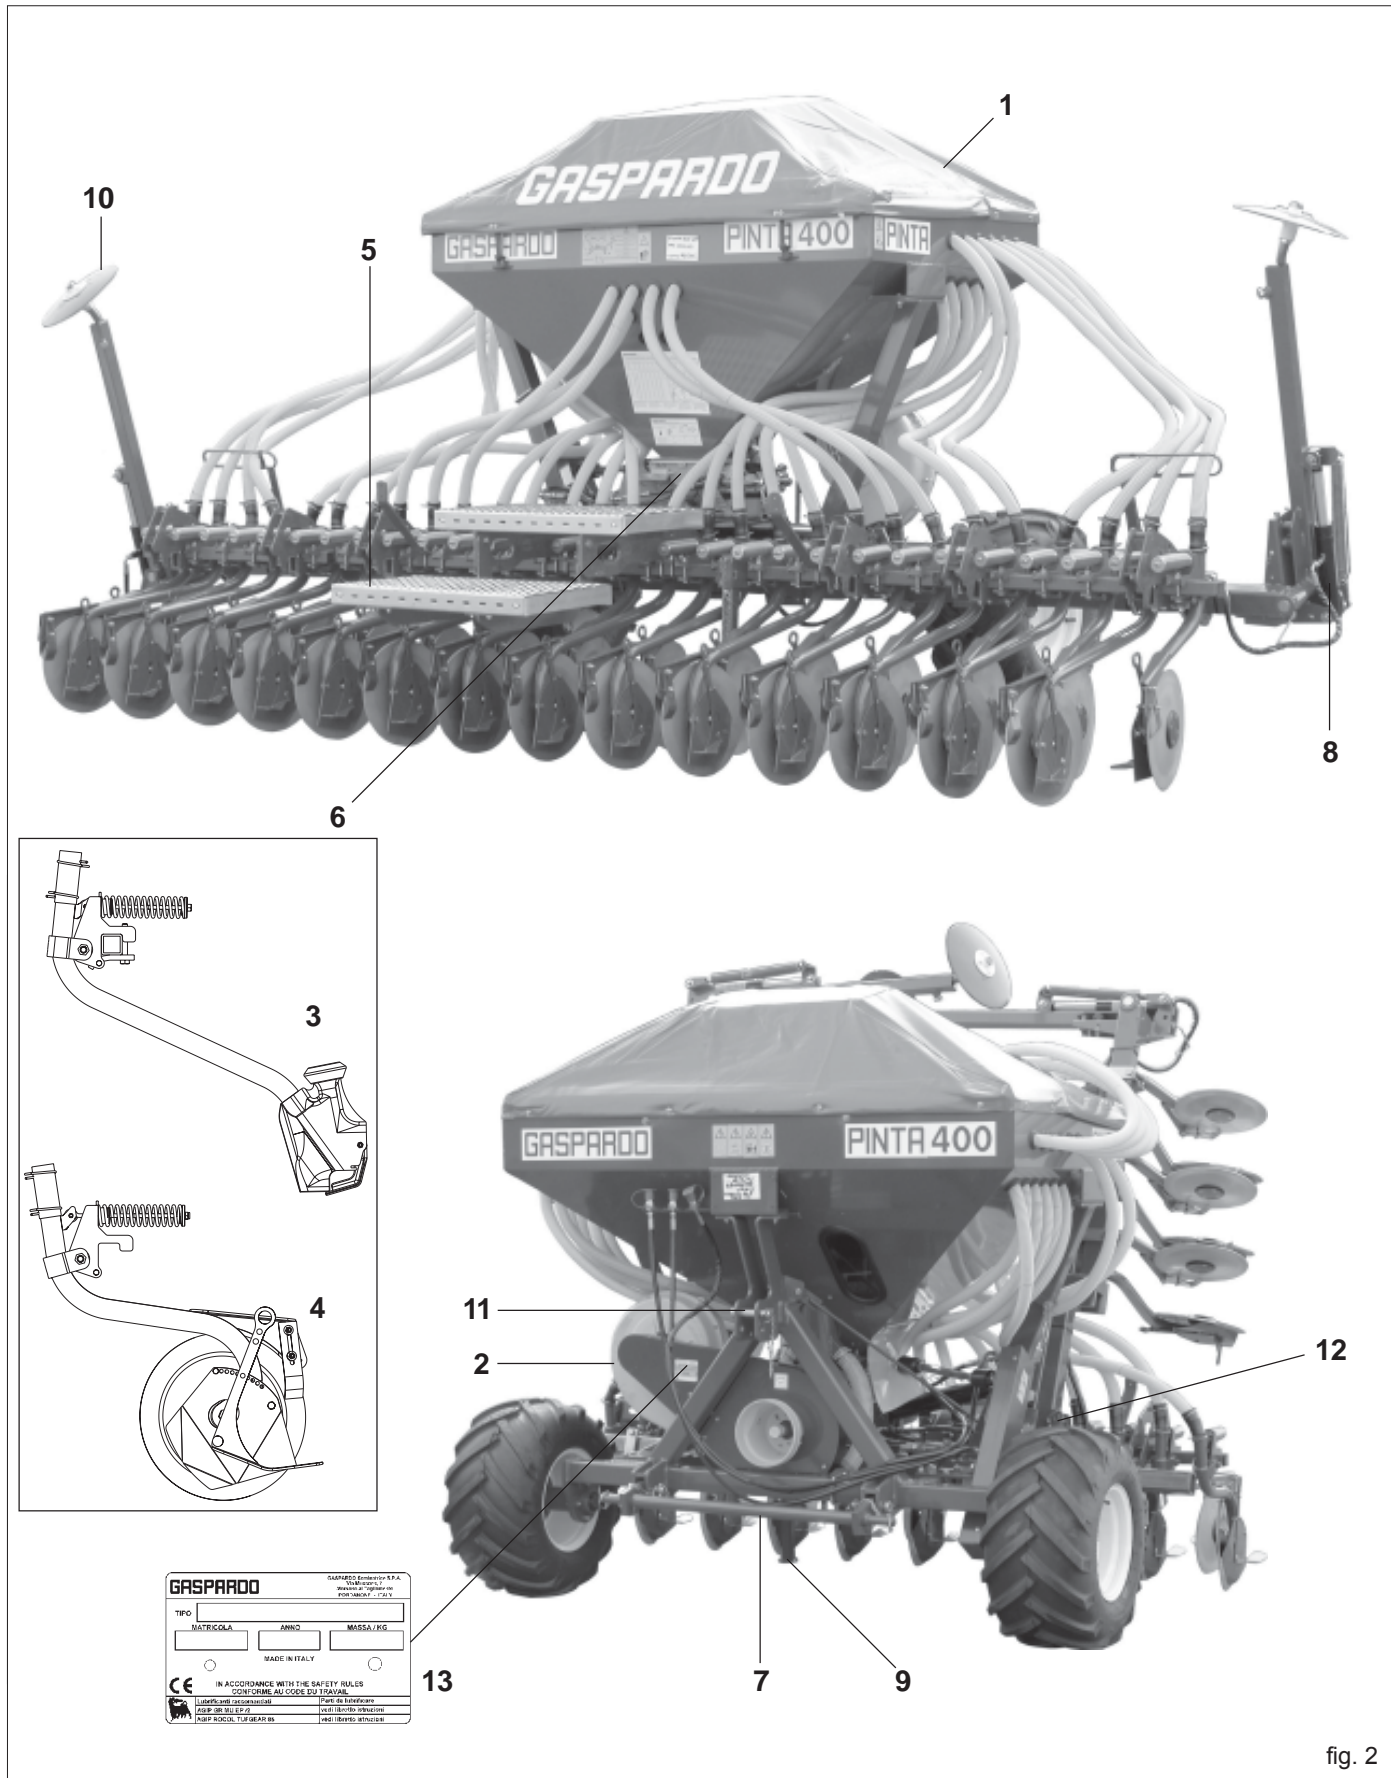

fig. 2
Each individual machine has an identification plate (13 Fig. 2) indicating the following details:
The mass of the machine is on the identification Plate (13 Fig. 2).
1.7 ASSEMBLY DRAWING (Fig. 2)